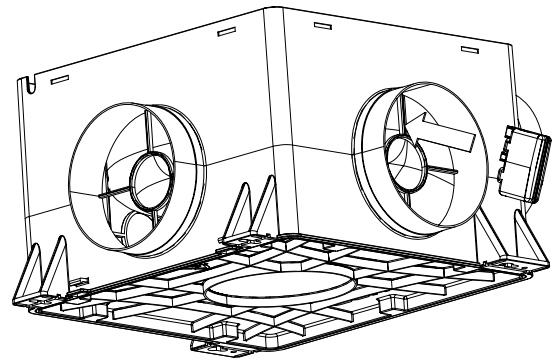

Figure 13: Clicking the CO₂ Box Sensor into the duct port.
3. Secure the CO₂ Box Sensor from the outside in the desired duct port by clicking it into place on the rib closest to the motor plate (Figure 13: Clicking the CO₂ Box Sensor into the duct port). To do this, make a tilting movement by first tightening the lower and then the upper clamp.